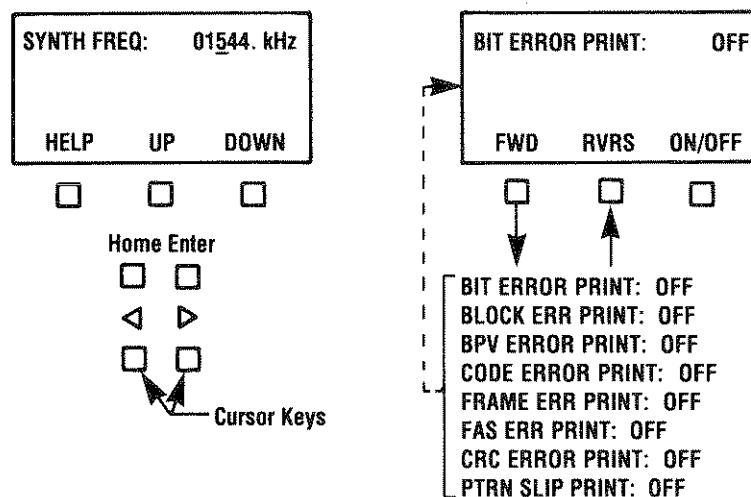

Figure 4-3
- (1) Selecting a function or item from a list (the selected item is displayed in the selection field). In most cases, pressing a softkey selects a parameter such as a fixed clock frequency, test pattern, or interface configuration parameter. In other situations, pressing the softkey directs the flow of the menus selected in a category, like changing the internal RS-232-C/V.24 Interface from synchronous to asynchronous operation.
- (2) Scrolling through lists of options or digits. Another function of the softkey is to provide directional control when viewing lists of options like those shown in Figure 4-3(A) or changing numerical values in the selection field. The softkeys can be labeled **FWD** (forward), **RVRS** (reverse), **UP**, **DOWN** (see Figure 4-3(B)), or by a parameter, such as **BAUD**, or **DATA** as in the AUXILIARY RS232Interface menu.
- (3) Answering a question or asking for help. When entering a parameter, such as a synthesizer frequency, and pressing the SETUP SELECT switch instead of the ENTER key, a question is asked to save the newly entered information. When a softkey is labeled **HELP**, pressing it displays a help message that indicates a range for the selected menu.
The cursor keys are only used to position the cursor in the selection field (see Figure 4-3(A)). The character above the cursor can be changed using the scrolling softkeys of the selected menu. These keys are only used when the cursor is displayed in the selection field.